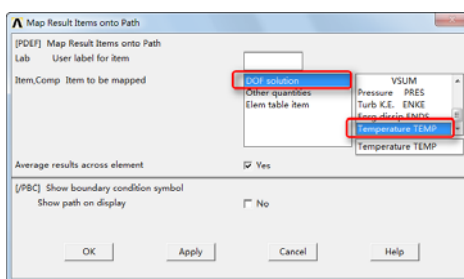

图 10-50 “Map Result Items onto Path”对话框
⑦依次选择 Main Menu→General PostProc→Path Operations→Map onto Path,会弹出“Map Result Items onto Path”对话框,如图 10-50 所示,在“Item, Comp Item to be mapped”后选择 DOF solution→TEMP,单击“OK”按钮关闭该对话框。